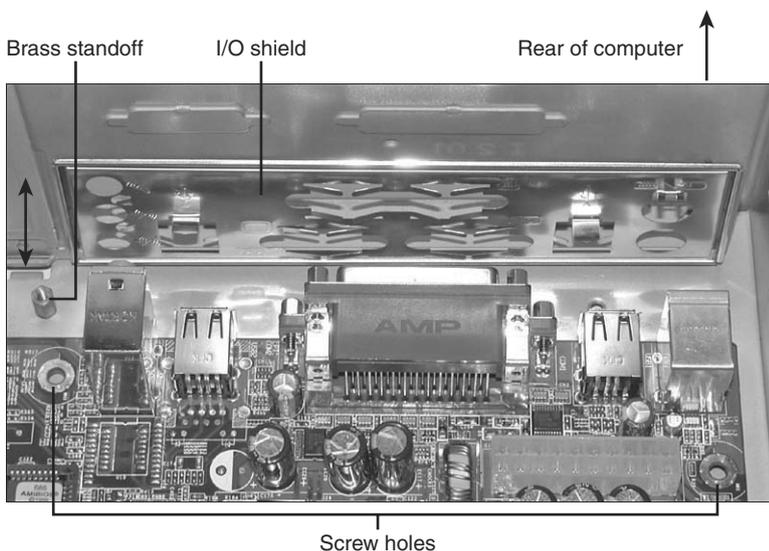

Figure 3-17 An ATX I/O shield and motherboard during installation.
- Step 10.** Lift the motherboard and plastic stand-off spacers out of the case and place them on an antistatic mat. Remove the I/O shield (the metal plate on the rear of the system which has cutouts for the built-in ports; refer to Figure 3-17) and store it with the old motherboard.
- Step 4.** Determine which holes in the motherboard have brass stand-off spacers beneath them and secure the motherboard using the screws removed from the old motherboard (see Figure 3-17).